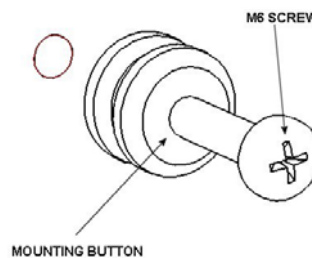
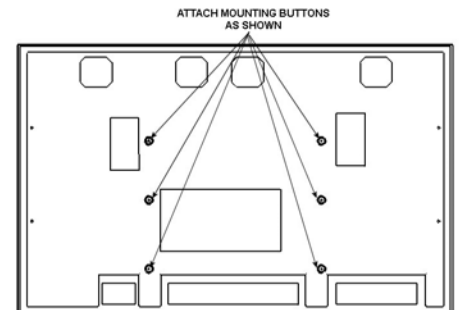

Figure 3
Figure 4
2. Attach mounting buttons to plasma using six M6 x 25 cap screws (see Figure 3 and Figure 4).
5. With the aid of another person, lift the display up to the mount, align the mounting buttons on the plasma with the teardrop slots in the mount, and set the display into place (see Figure 4).